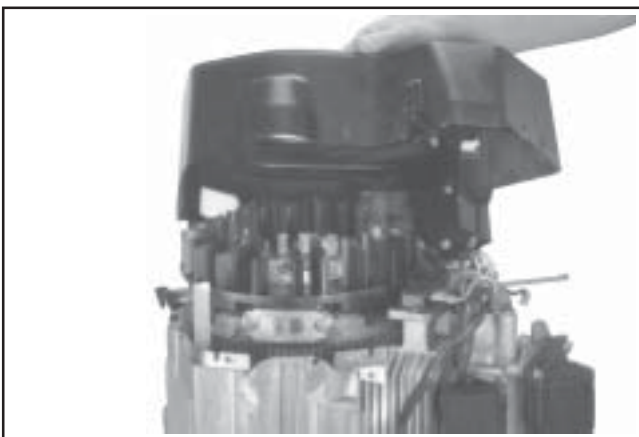

**Figure 9-30. Removing Flywheel Screen.**
5. If the flywheel screen overlaps the blower housing, remove the fasteners and screen. If it was a metal screen with long bolts, also remove the remaining loose hardware and cooling fan. See Figure 9-30.